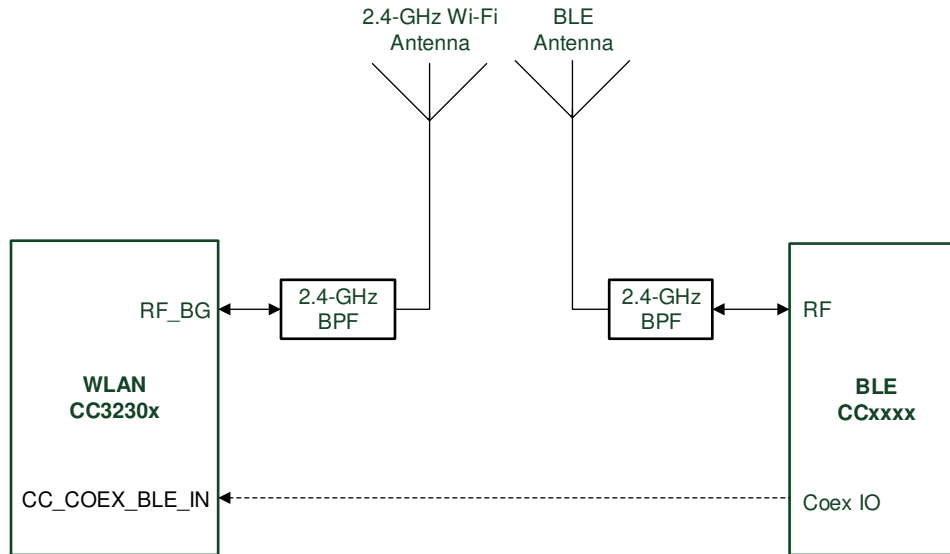

Figure 10-2. Dual-Antenna Coexistence Mode Block Diagram
- in this mode, (see Figure 10-2) the two entities have separate antennas, No RF switch is required and only a single GPIO (on input from the WLAN perspective).
Figure 10-2 shows the dual antenna implementation of a complete Bluetooth low energy and WLAN coexistence network. Note in this implementation no Coex switch is required and only a single GPIO from the BLE device to the CC3230x device is required.